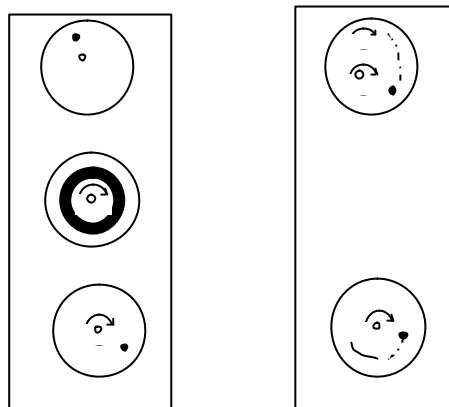

Figure 18. Principle of the Working of a Stroboscope
- Figure 18: National Productivity Council (NPC) India, experience from various industrial studies. 2006